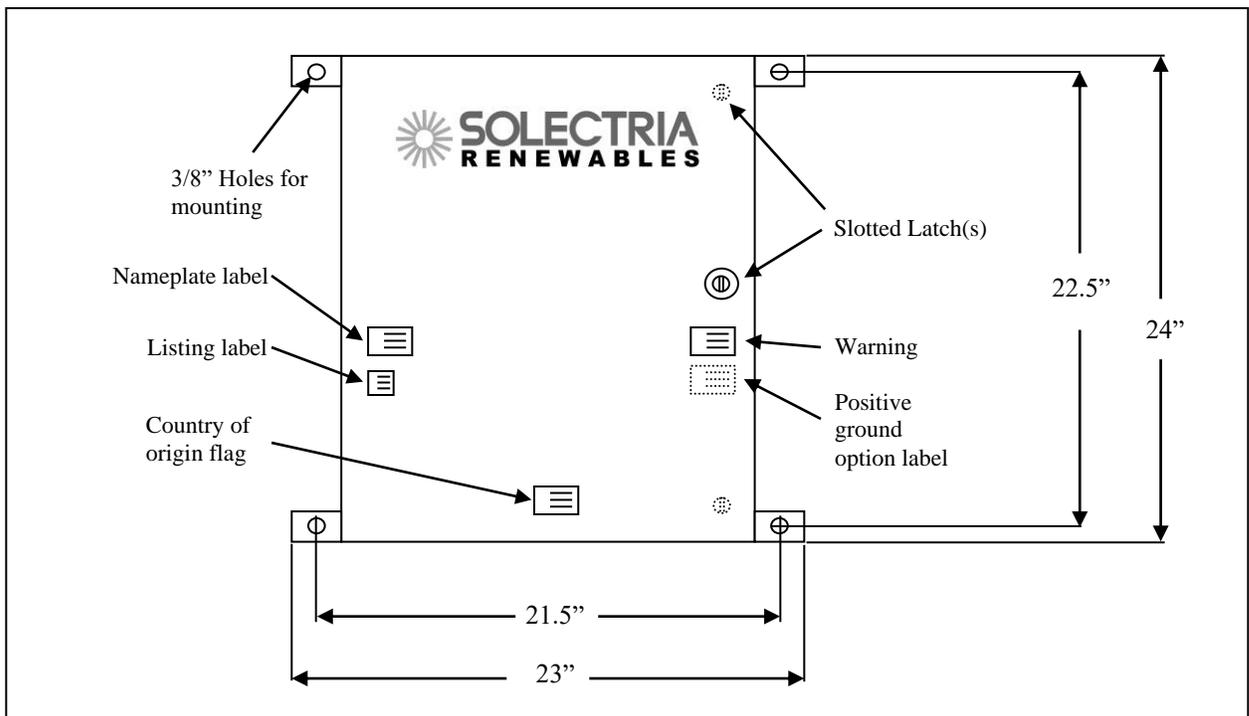

Fig. 2a STRCOM Fused String Combiner Dimensional Mounting Diagram
- Install the combiner in an accessible location following NEC codes for enclosure and disconnect door clearances and proximity to other equipment. (See mounting diagram, Fig. 2a and 2b)
Using the mounting diagram Fig. 2a and 2b choose whether wall, array structure or stand mounting will be used. Be sure to allow NEC clearance for access to combiner. The units can be mounted side-to-side if multiple combiners are being used.